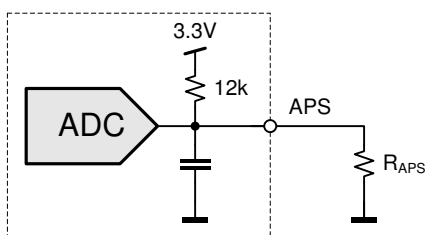

Figure 35: I²C address and protocol setting
1) E12 resistor values, use max 5% resistors, see also Figure 35.